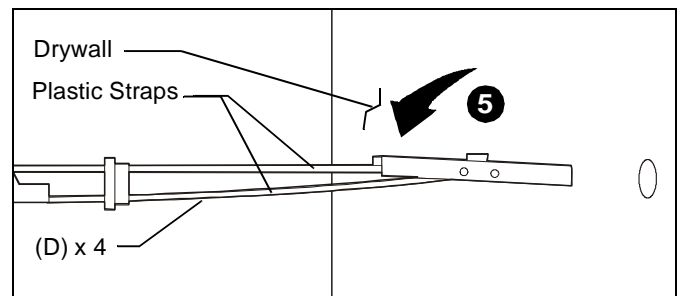

Figure 6
5. Hold metal channel on anchor (D) flat alongside plastic straps and slide channel through hole. (See Figure 6)